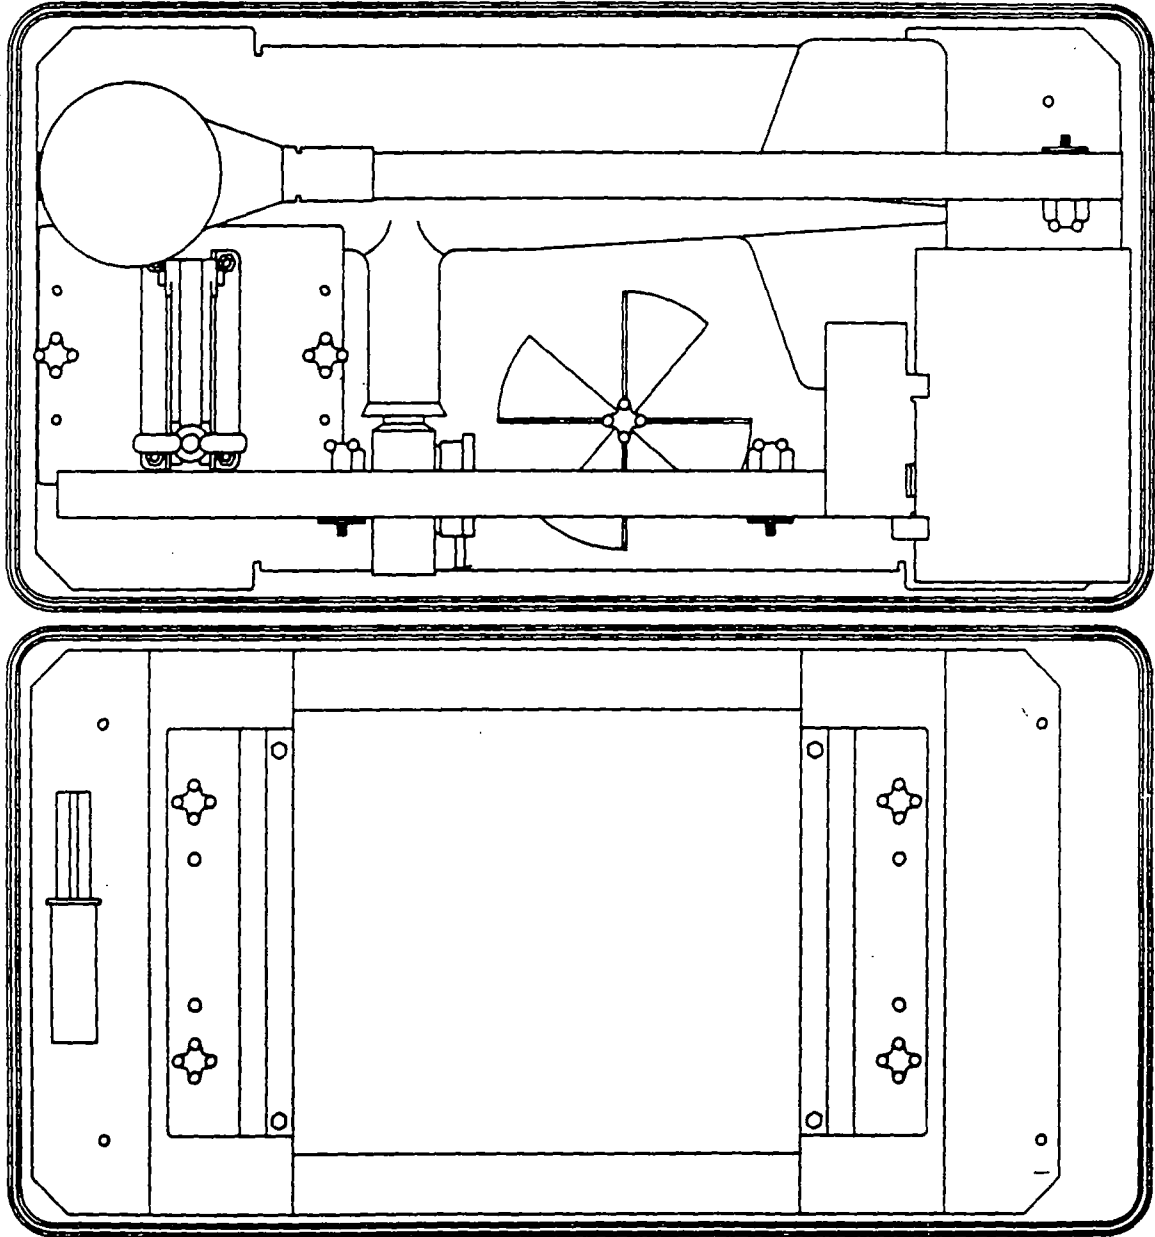

FIGURE 6.0. Components Stored in Transit Case
1. Disconnect the sensors from the bulkhead connectors on the enclosure, and the velcro ties from the bottom section of the mast. Remove the crossarm assembly from the mast by loosening the thumb screw on the saddle clamp bracket. Remove the crossarms and secure them, and the crossarm bracket, inside of the fiberglass transit case as shown in Figure 6.0 (remove the solar panel, if present, and secure it in its transit case).
3. Remove the instrument enclosure from the mast. Open the lid and make sure that the velcro ties around the SM192 are tight, the piece of 3/8" foam is between the CR10KD and the battery packs, and the alkaline batteries have been removed. Secure the enclosure inside the transit case using (4) knobs.